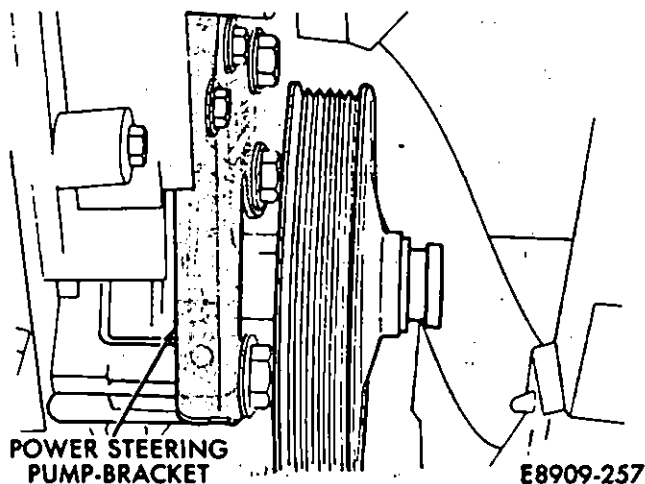

Fig. 14—Power Steering Pump Bracket
(37) Loosen the power steering pump nuts, and bolts until front bracket drops down (Fig. 14).
(38) Remove the stud bolt behind the front power steering bracket.
(39) Remove the rear power steering pump bracket mounting bolts.